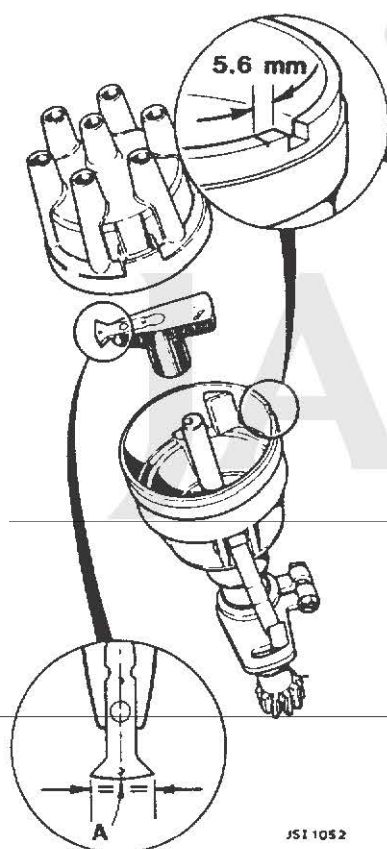

FIG 2
- 2) Mark the centre of the rotor arm (A Fig 2) with a pencil.